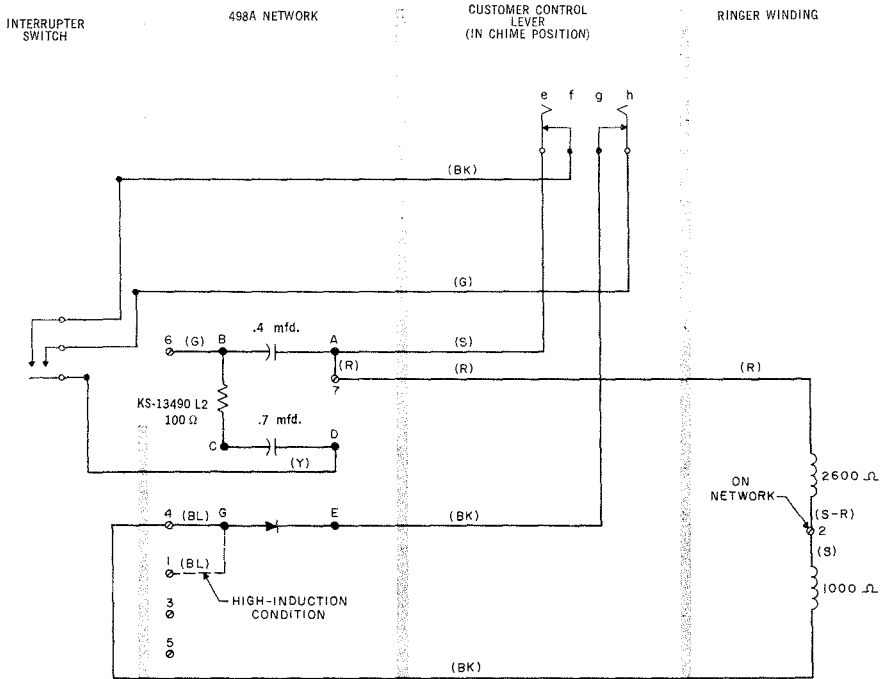

Fig. 7 - QCY1A1 Bell Chime -- Schematic
**7.03** Table B gives connections for the Bell Chime. A circuit drawing is shown in Fig. 7.